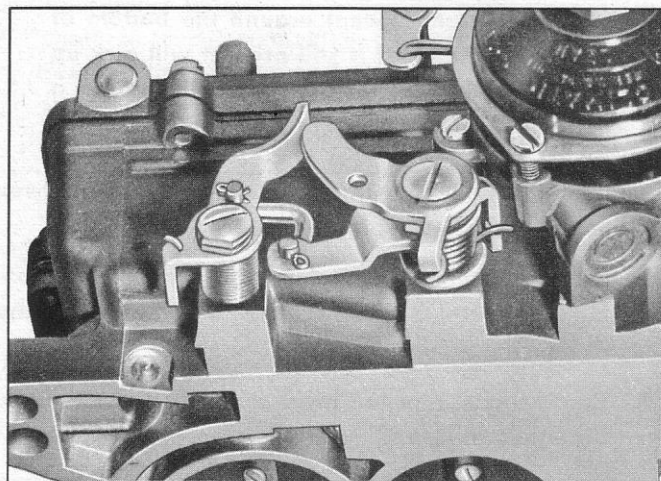

Fig. 110—Throttle Shaft Levers—Installed
3. Install secondary throttle shaft dog lever and spring. Wind spring one turn (fig. 110).